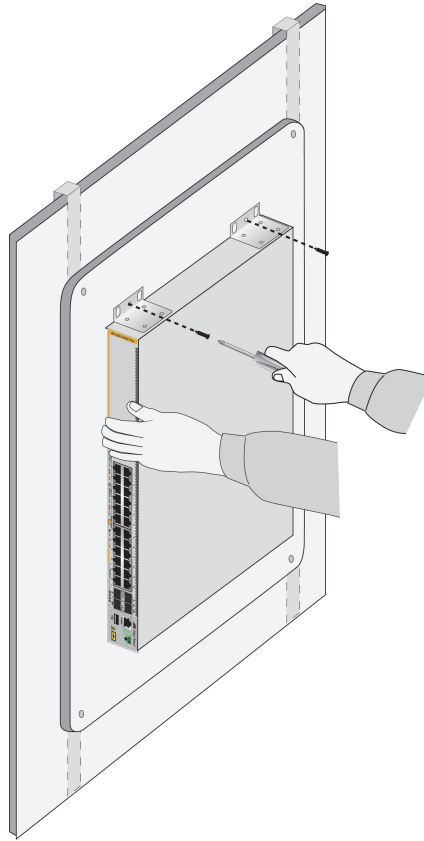
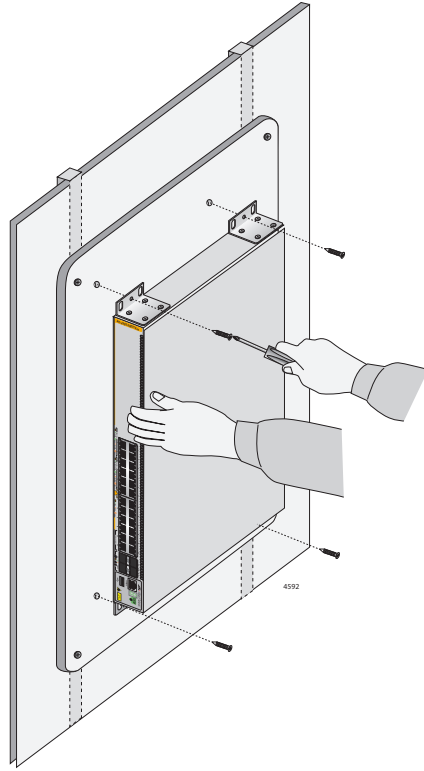

Figure 42. Securing the AT-x530-28GTXm or AT-x530-52GTXm Switch to the Plywood Base
Figure 43. Securing the AT-x530-28GPXm or AT-x530-52GPXm Switch to the Plywood Base
3. After attaching the brackets, have another person hold the switch on the plywood base on the wall while you secure it with the M4x32.3mm screws included with the switch. Refer to Figure 42 on page 104 for the AT-x530-28GTXm or AT-x530-52GTXm switch, Refer to Figure 43 on page 105 for the AT-x530-28GPXm or AT-x530-52GPXm switch.